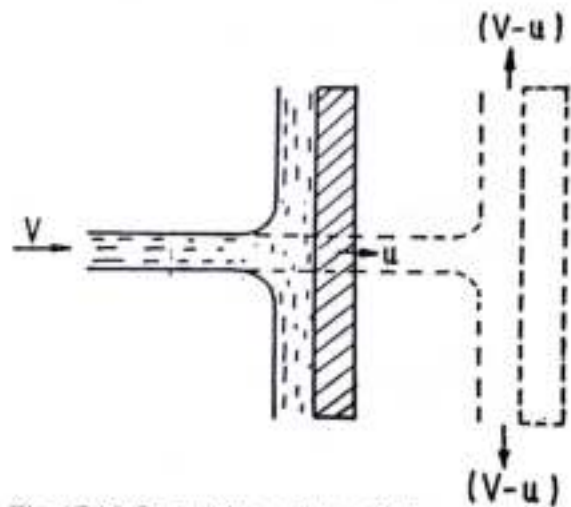

Fig. 17.10. Jet striking a flat vertical moving plate.
**17.4.1. Force on Flat vertical plate moving in the direction of Jet.** Fig. 17.10 shows a jet of water striking a flat vertical plate moving with a uniform velocity away from the jet.